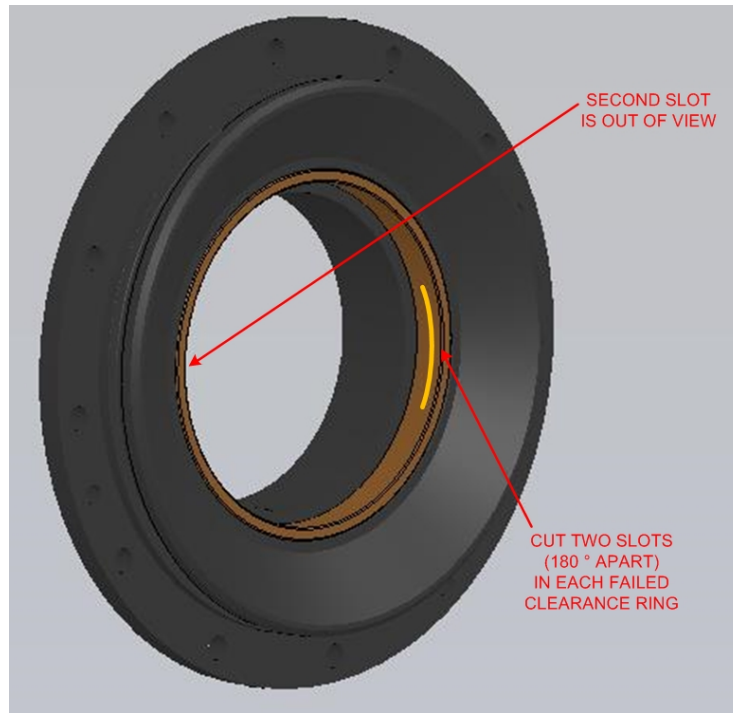

Figure 44. Slots Cut In Clearance Ring - Suction Head
- B. Using cutting wheel, cut two slots (180° apart - opposite each other) into failed clearance ring. See Figure 44.